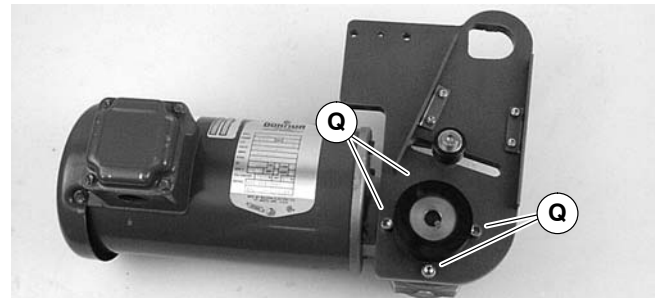

Figure 11
- If required, change gearmotor position by removing four (4) screws (Q of Figure 11). Rotate gearmotor to other position and replace screws (Q). Tighten to 103 in-lb (12 N-m).